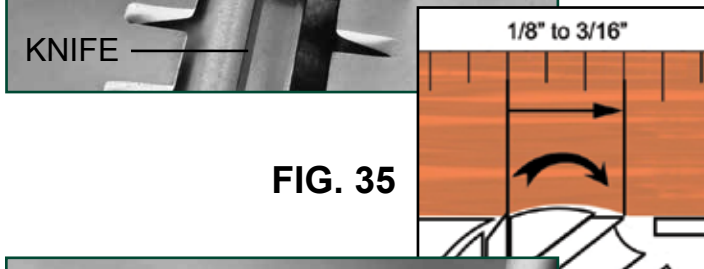

FIG. 35
2. Slowly turn the cutterhead by hand, in the direction of the cutting knives. If the planer knives are set correctly, the end of the straight edge is moved forward $1/8"$ to $3/16"$. FIG. 35. If the straight edge moves less than $1/8"$, the knives are set too low. If it moves further than $3/16"$, they are set too high.